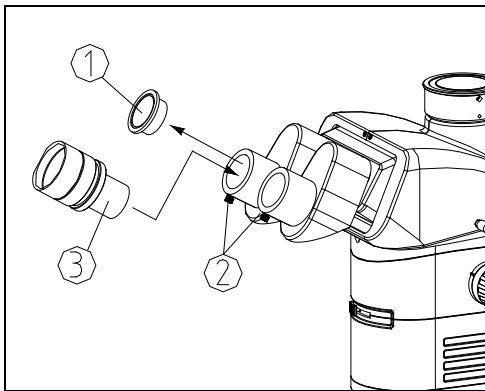

Fig.7
1. Remove the eyepiece tube cover (1).
2. Insert the eyepiece (3) into the eyepiece tube, until it is fully inserted. Lock the eyepiece by tightening the lock-screw (2) (See Fig. 7)